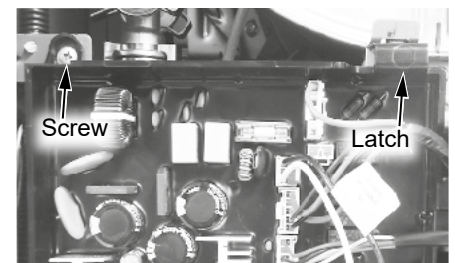

Figure 3 - Control board location
- 9 Locate the two (2) screws at the bottom of the cabinet cover. Use a Phillips screwdriver to remove the screws. Place screws aside in a safe place for reinstallation.
- 11 Locate the screw securing the control board panel as shown in Figure 3. Use a Phillips screwdriver to remove the screw and place it aside in a safe place for reinstallation.